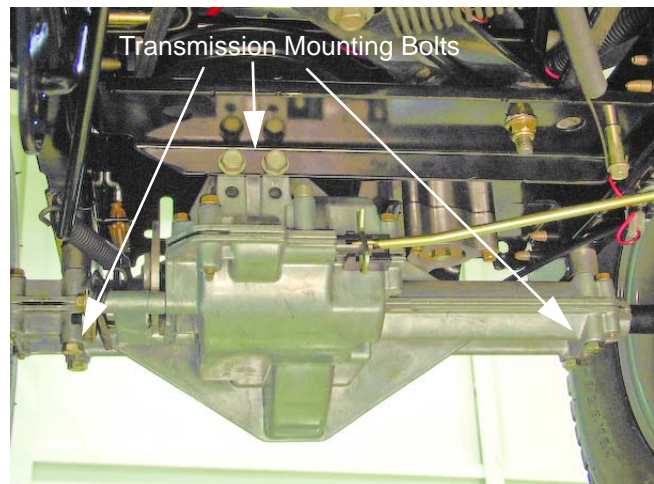

Figure 5.7
- 6b. Check the transmission mounting points on the frame and torque bracket. See Figure 5.7.